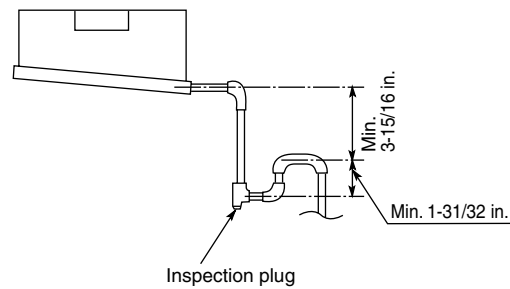

Fig. 3-107
- (5) Also, in another part of the pipe arrangement, prepare traps with an inspection plug to clean dust or debris that may cause leaking of water. (Fig. 3-107)
- (6) After connecting the drain piping, slowly pour water into the drain pan to check that the water drains smoothly.